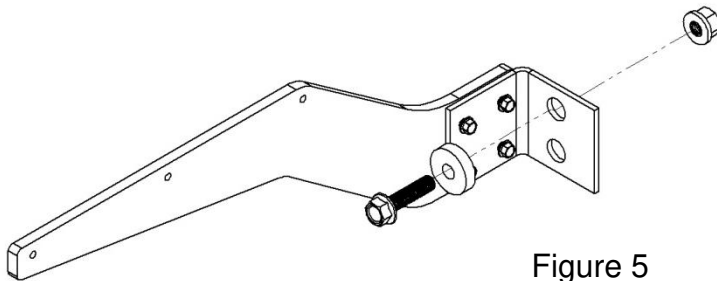

Figure 5
D. Install center bracket assembly (Figure 5).